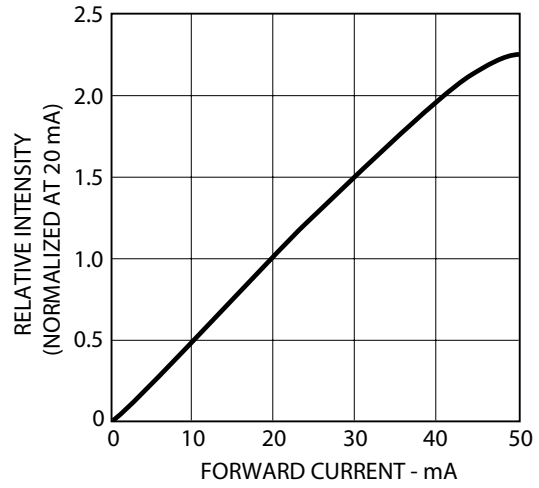
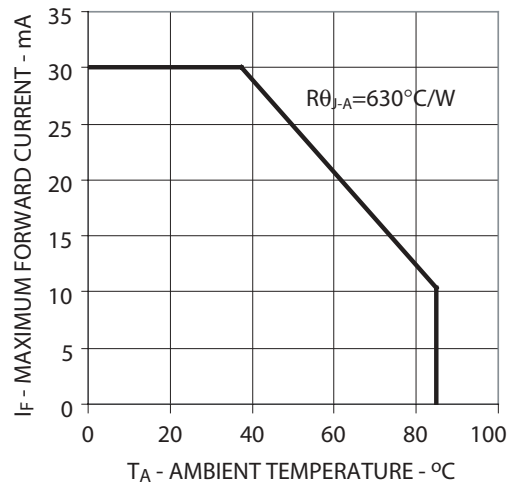

Figure 4. Relative Intensity vs Forward Current
Figure 8. Maximum Forward Current vs Ambient Temperature
1. Derate linearly as shown in Figure 4 and Figure 8